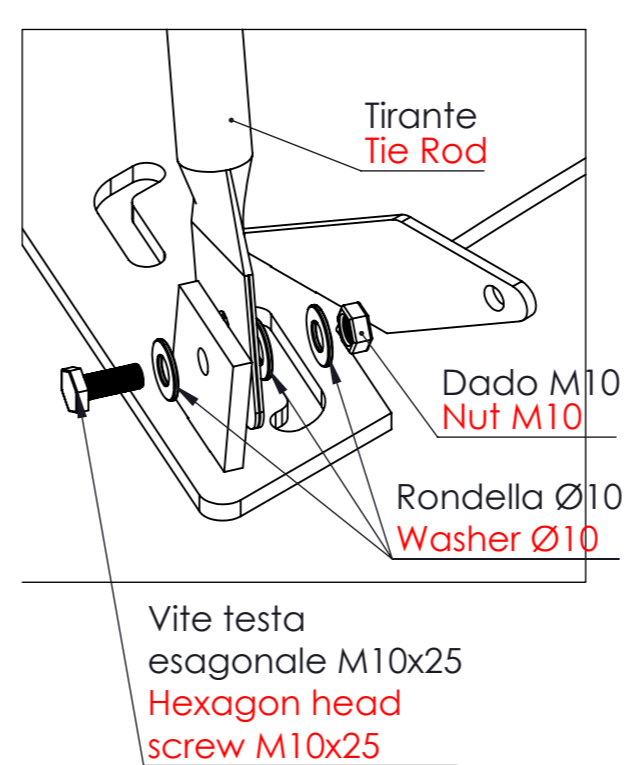

FIG. 3
3. Secure both tie rods to the base using an M10x25 hexagon head screw with washers and M10 nut as shown in Figure 3.